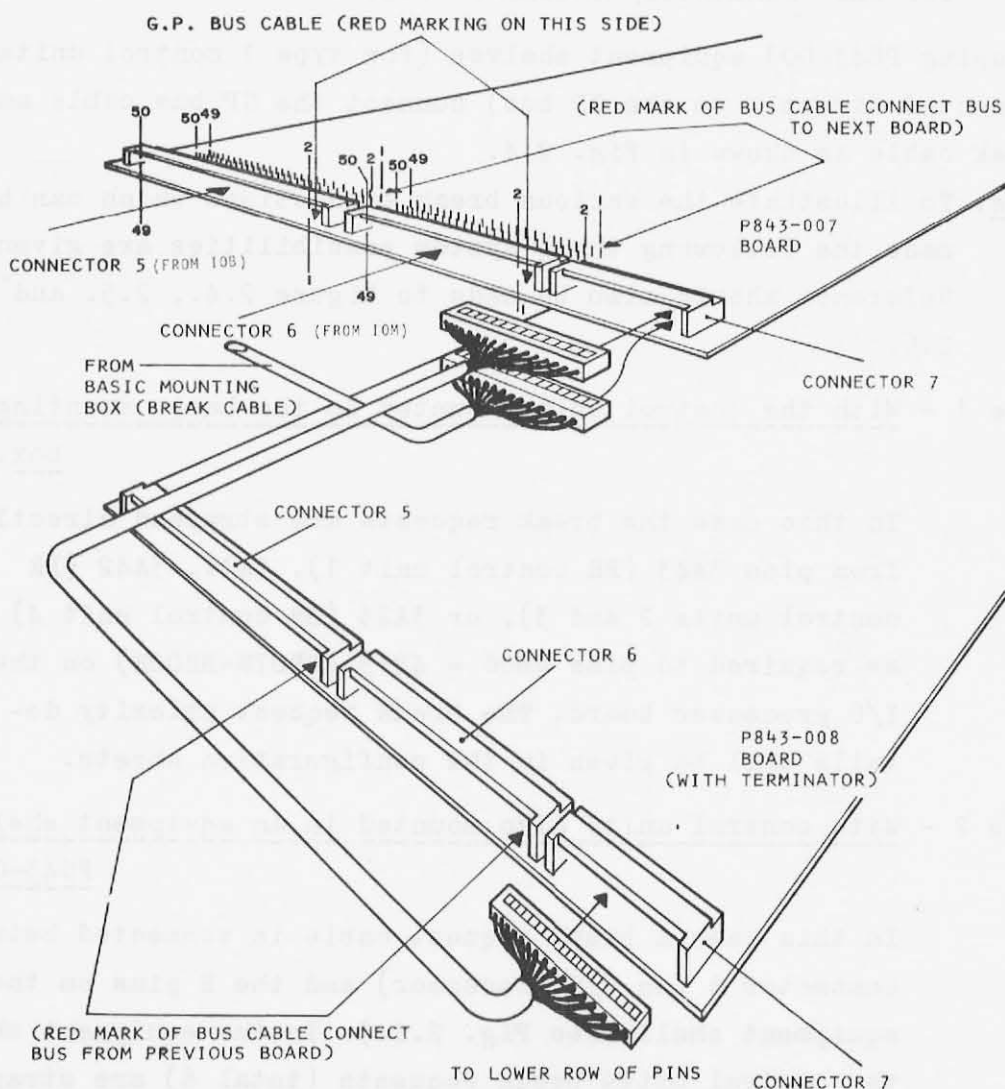

FIG. 2.3. BUS AND BREAK CABLE EXTENSION (using BUS TRANSLATOR BOARDS)
- (j) If using Multicard control unit or P843-002/003 equipment shelves (for type 2 control units connected to the GP bus via a translator board P843-007 or P843-008) connect the GP bus cable and break cable as shown in Figure 2.3.